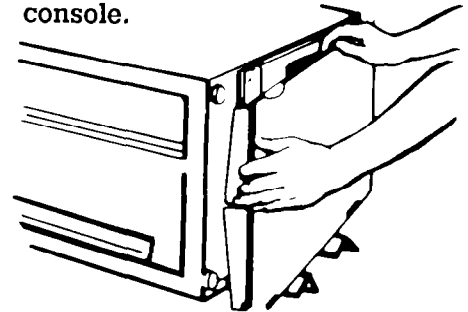

Figure 7
6. Lay two carton corner posts or other protective material (such as a throw rug) on the floor; then lay the unit on its side on the corner posts. The corner posts will protect the finish of the compactor and the floor. Remove the cardboard shipping pad located on the bottom. (See Figure 7.) Stand compactor upright. Do not truck or handle by console.